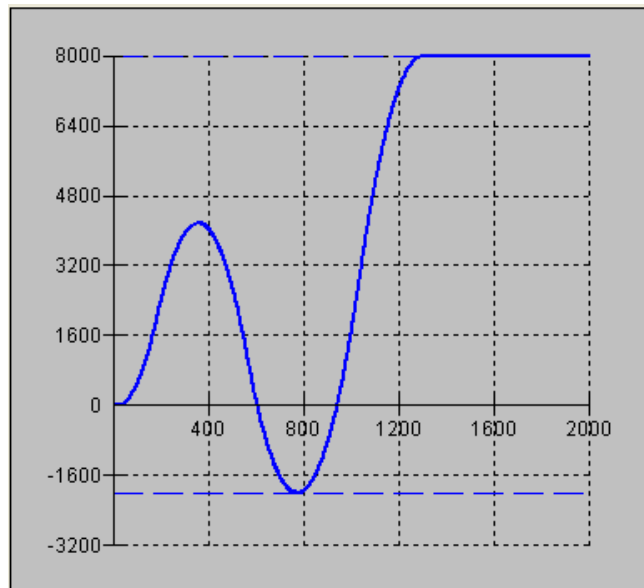
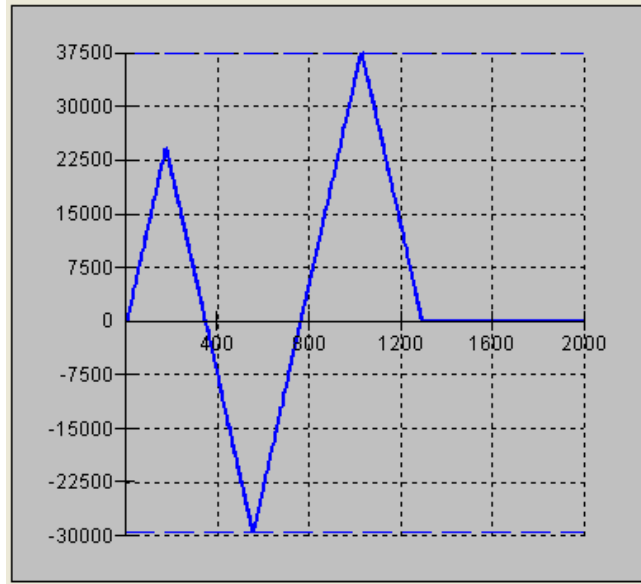
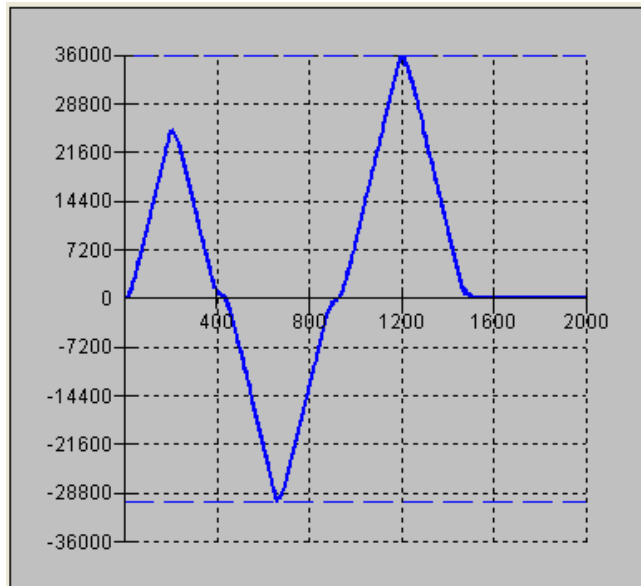

Figure 6.5: Position vs. Time (msec) Motion 4
Figure 6.6: Velocity vs. Time Motion 4
Figure 6.7: Velocity cts/sec vs. Time (msec) with IT
In this motion, the host program commands the controller to begin motion towards position 5000, changes the target to -2000, and then changes it again to 8000. Figure 6.5 shows the plot of position vs. time, Figure 6.6 plots velocity vs. time, and Figure 6.7 demonstrates the use of motion smoothing (IT) on the velocity profile in this mode. The jerk in the system is also affected by the values set for AC and DC.